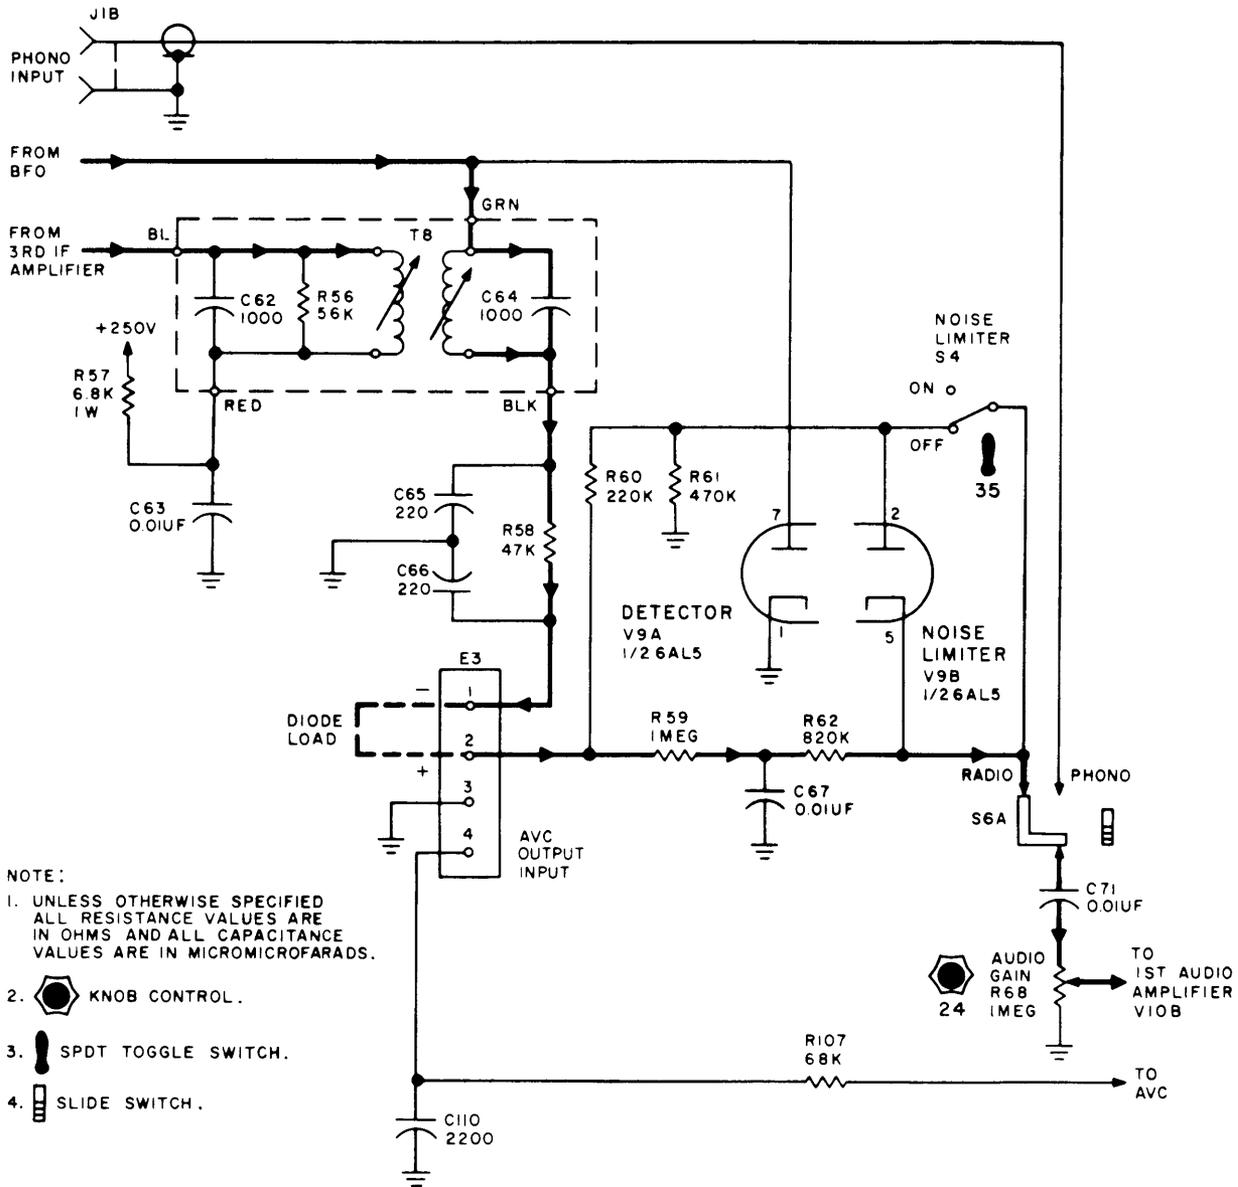

Figure 4-8. Schematic Diagram, GPR-90RXD, Detector and Noise Limiter
h. DETECTOR AND NOISE LIMITER. (See figure 4-8.) - The output of the third IF transformer is coupled through IF transformer T8 to detector V9A. The IF signal is demodulated and filtered; the remaining audio information is applied to audio amplifier V10B.
i. **AUDIO AMPLIFIERS.** (See figure 4-9.) - Triode V10B is the first audio amplifier. Three inputs may be applied to the grid of this amplifier. With RADIO-PHONO switch S6 in the PHONO position, the output of a high impedance phonograph cartridge may be connected to PHONO INPUT jack J1 and the audio amplifier may be utilized. (See figure 4-8.) For full output, 0.15 volt is required. When RADIO-PHONO switch S6 is set to the RADIO position, the GPR-90RXD will operate normally. When SSB switch S7 is set to the ON position, the audio output of the detector is shorted to ground. (For SSB operation, audio signals can be supplied by a TMC Model MSR-6, Single Sideband Converter.)